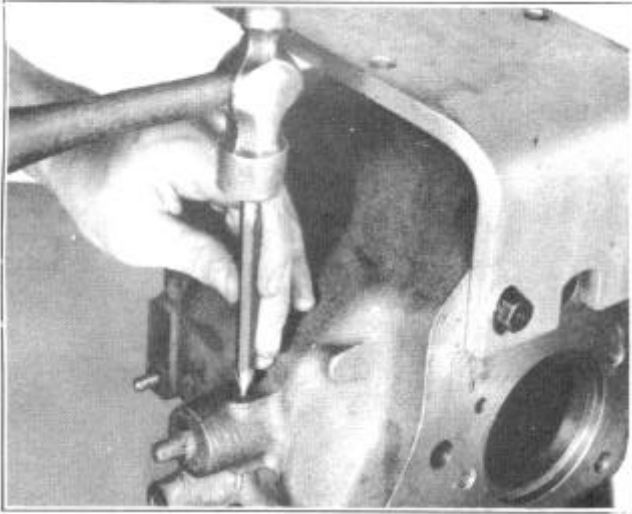

FIGURE 16
25. Remove shift shaft tapered pin, Figure 16, with pin punch and then withdraw shift shaft and shaft seal.